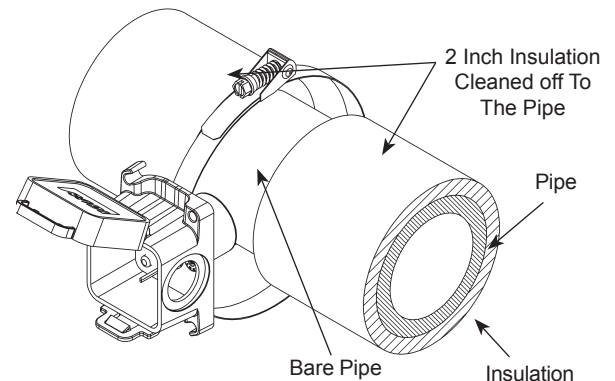

Fig 2: Clamp-On Strap with BAPI-Box Crossover Enclosure installation
1. Fig 2 shows a typical installation for pipes from 2" to 4.5". Stripping away insulation is OK.